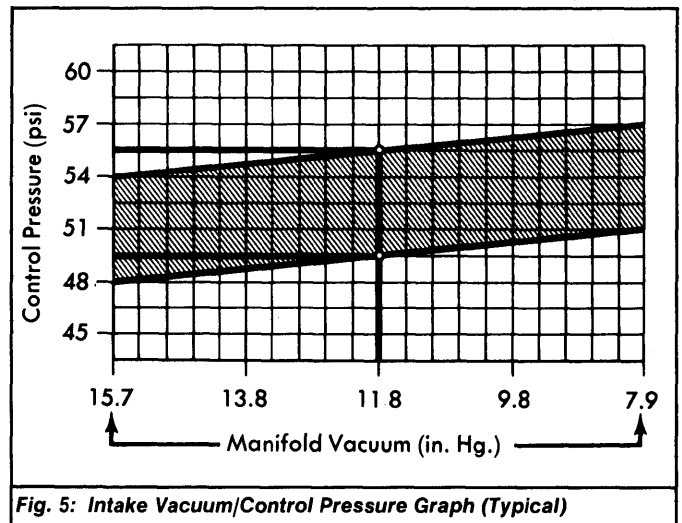

Fig. 5: Intake Vacuum/Control Pressure Graph (Typical)
2) If pressure is incorrect, check manifold vacuum. Disconnect vacuum hose from control pressure regulator. Install "T" fitting and vacuum gauge into line. Note vacuum reading and compare readings with intake vacuum/control pressure graph. See Fig. 5.
1 – With manifold vacuum at 11.8 in. Hg. If manifold vacuum is higher, pressure will be slightly lower. If manifold vacuum is lower, pressure will be slightly higher. See Fig. 5.